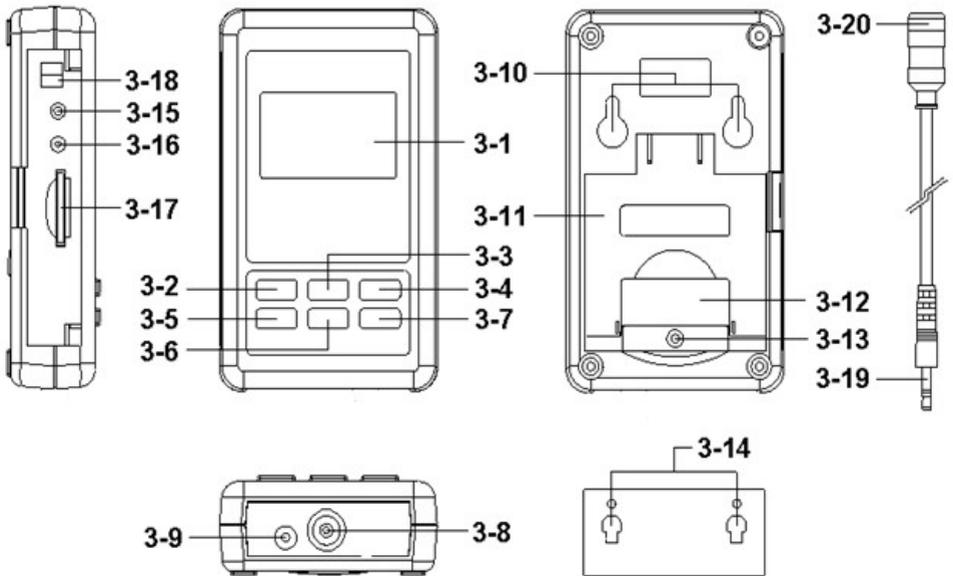

Fig. 1
- 1) Power ON the meter by pressing and holding the " Power Button " (3-2, Fig. 1)for at least 1.5 seconds, the meter's default function is " A"(frequency weighting) , " Fast"(time weighting) " Auto range ". The LCD display will show the Symbol " A, FAST , xx.x dB " .
Use the " ▲ Button " (3-3, Fig. 1) to select the Sound Measurement Range shown (AUTO , 30 - 80 , 50 - 100 , 80 - 130 ,AUTO) reading in the center of the range. If dashes appear on the display select a new range , After power on the default range is " Auto range " In the same time the LCD display will show the text of " AUTO " Under the auto range.
How to select the frequency weighting (A or C), by pressing and holding the " ▼ Button " (3-6, Fig. 1) for at least 2 seconds to select A or C Frequency weighting
According to various measuring sound source, by pressing the "▼ (Time Weighting) Button " (3-6, Fig. 1) once to select the Time Weighting (Fast or Slow or PEAK Fast) .
During the SPL measurement, pressing and holding the " HOLD Button " (3-4, Fig. 1) for at least 2 seconds will hold the measured value & the LCD will display a " HOLD " symbol. pressing and holding the " Hold Button " for at least 2 seconds again will leave the data hold function.
- 1) The data record function records the maximum and minimum readings. Press the " REC Button " (3-4, Fig.1) once to start the Data Record function and display is shown the " REC " symbol .
- a) Press the " REC Button " (3-4, Fig. 1) once, the " REC MAX " symbol along with the maximum value will appear on the display. Press the " REC Button" again the " REC MIN " symbol along with the minimum value will appear on the display. Press the " REC Button" again will show the " REC " symbol only & execute the memory function continuously.
After power ON, the " LCD Backlight " will light automatically. During the measurement, press the " POWER Button " (3-2, Fig. 1) once will turn off the " LCD Backlight ".
During the measurement, press the " Time Button " (3-5, Fig. 1) once display will show Year/Month/Date, Hour/Minute/Second and sampling time information.
Connect another mA meter into the SOUND LEVER DATA RECORDER (3-18 Fig1 4-20 mA Output Terminal) socket ,the recorder will be output 4-20 mA analog signal .
Prepare a " SD memory card " (1 GB to 16 GB, optional), insert the SD card into the " SD card socket " (3-17, Fig. 1). The front panel of the SD card should face against the left side plastic case.
Pressing and holding the " ENTER Button (3-7, Fig. 1) > 2 seconds , display is shown " LOGGER " , the " LOGGER " will flashing
During execute the Datalogger function , if press the " ENTER Button " (3-7, Fig. 1) once will pause the Datalogger function (stop to save the measuring data into the memory circuit temporality). In the same time the text of " LOGGER " will stop flashing.
If press the " ENTER Button " (3-7, Fig. 1) once again will execute the Datalogger again, the text of " LOGGER " will flashing .
Press the " ENTER Button "(3-7, Fig. 1) continuously at least two seconds, the " LOGGER " indicator will be disappeared and finish the Datalogger.
During the measurement if press " TIME Button " (3-5, Fig. 1) once, the LCD display will present the time and sampling time information of Year/Month/Date , Hour/ Minute/Second, and sampling time information in second unit.